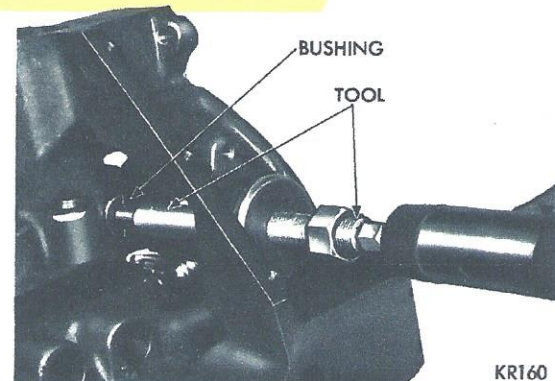

Fig. 32—Installing Distributor Drive Shaft Bushing
(1) Slide a new bushing over burnishing end of Tool C-3053 and insert tool bushing into the bore.
(2) Drive bushing and tool into position, using a hammer (Fig. 32).